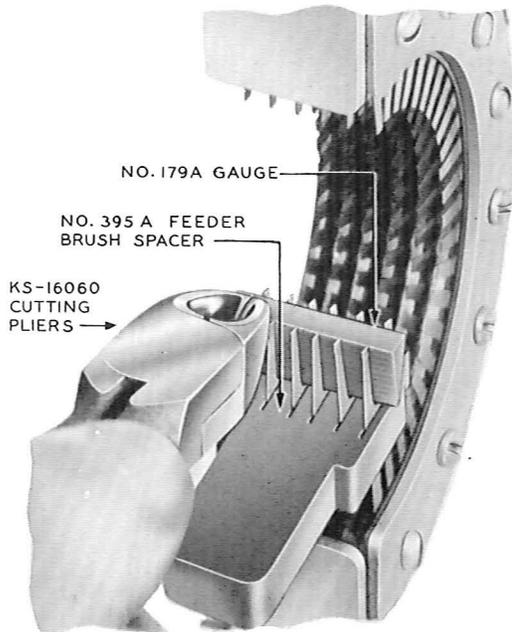

Fig. 3 - Clipping Off Feeder Brush Prong Tips
4.02 To clip the tip from a feeder brush prong, open the jaws of the KS-16060 cutting pliers just enough to engage the prong tip. Make sure that the No. 179A gauge is fully seated in a horizontal position between the prongs of the feeder brushes. If working on 32-type banks, make sure the gauge is chamfered as covered in 3.09. If the gauge tends to tilt or rise between the prongs, hold it firmly in position using the fingers or the KS-6320 orange stick. Place the cutting edges of the pliers on the No. 179A gauge so that the tip of the feeder brush prong is between the jaws as shown in Fig. 3. Keep the jaws of the pliers closed sufficiently so they will not touch adjacent feeder brush prongs. Then, clip off the tip of the prong as close as possible to the gauge, keeping the jaws of the pliers closed to prevent the tip from falling into adjacent apparatus. These pliers have plastic inserts above the cutting edges to hold the tip until the pliers have been withdrawn from the bank. Remove the tip from the pliers before clipping the next tip.